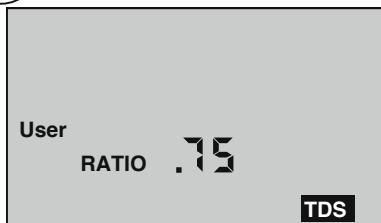

Figure 4
- b. Press $\text{CAL} \over \text{MCLR}$ twice (to skip over tempco adjustment) and “RATIO” will appear (see Figure 4).